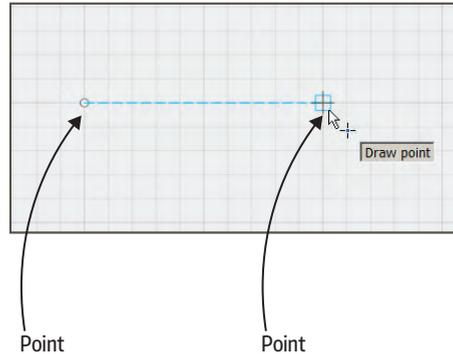

FIGURE 2-36: Click the grid to create points.
- ▶ **Point:** This tool lets you place points at precise locations (Figure 2-36). You can then snap sketch curves to them, useful for positioning holes. Sketch curves need to be on the same sketch as the points to snap to them.